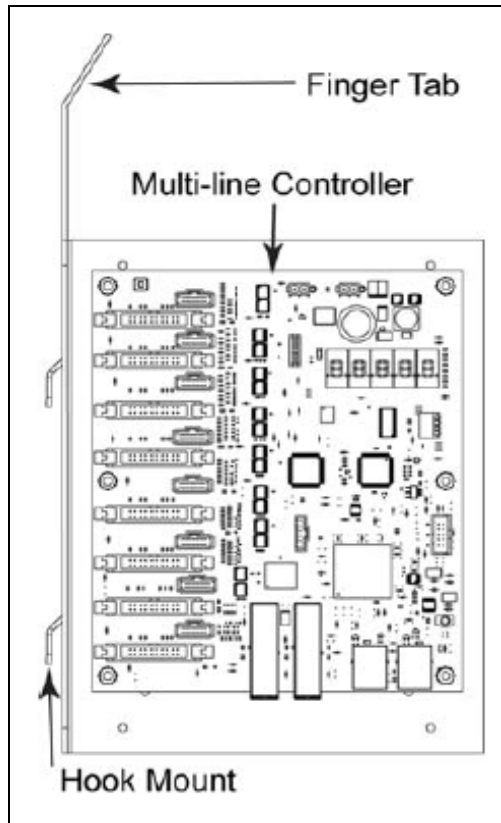

Figure 3: MLC Assembly
3. Pull the finger tab and lift the MLC assembly. Refer to **Figure 3**.